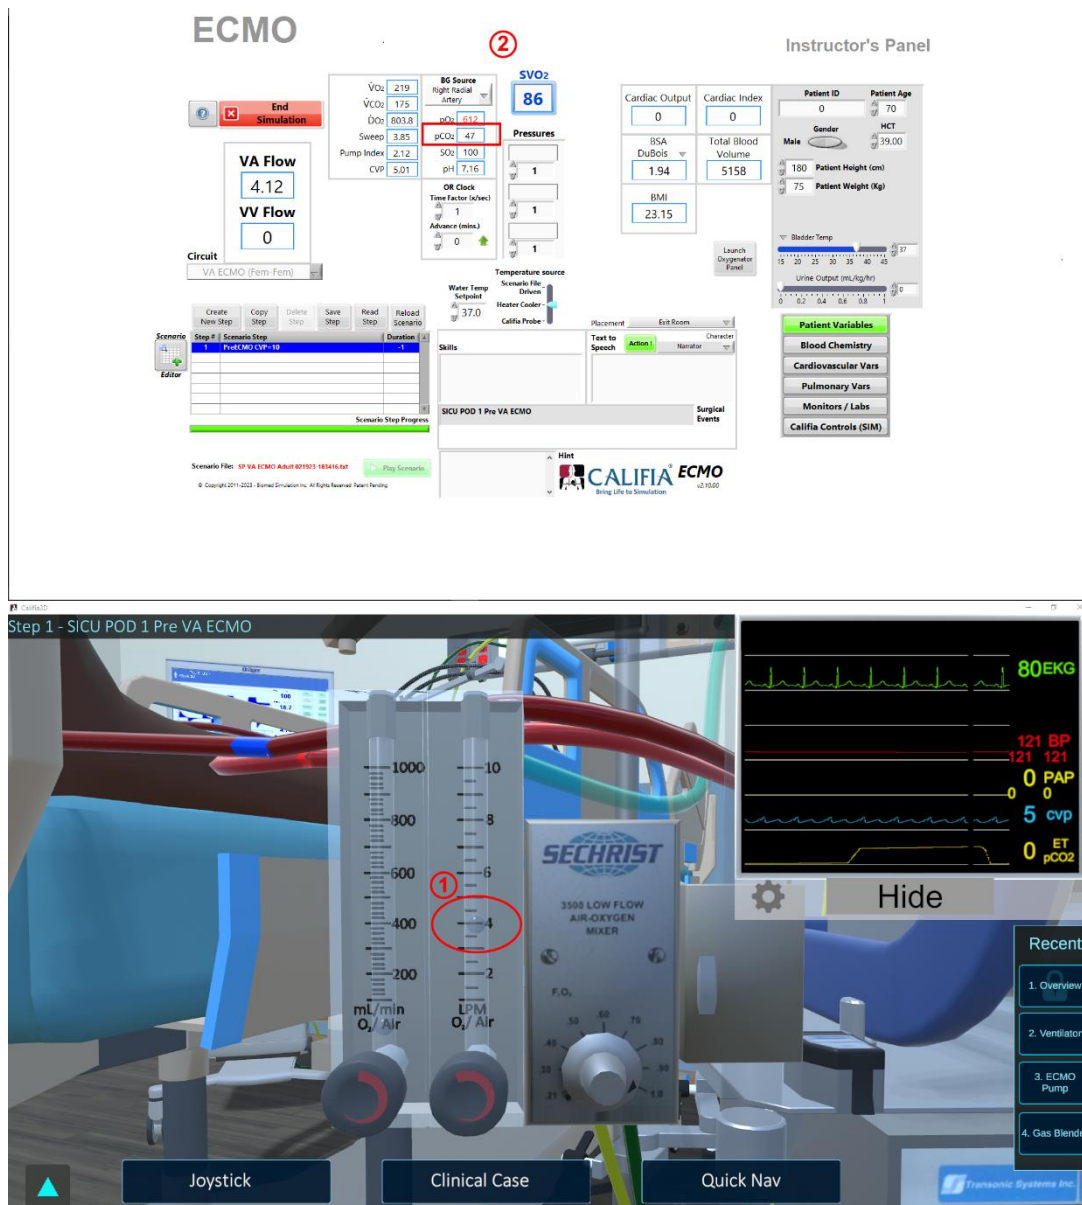

Figure 6.19 Higher gas sweep lowers arterial pCO_2
Referring to Figure 6.19, the high arterial pCO₂ pressure is addressed by increasing Gas Sweep to about 4 LPM, ①, resulting in pCO₂ in the mid 40s, ②.